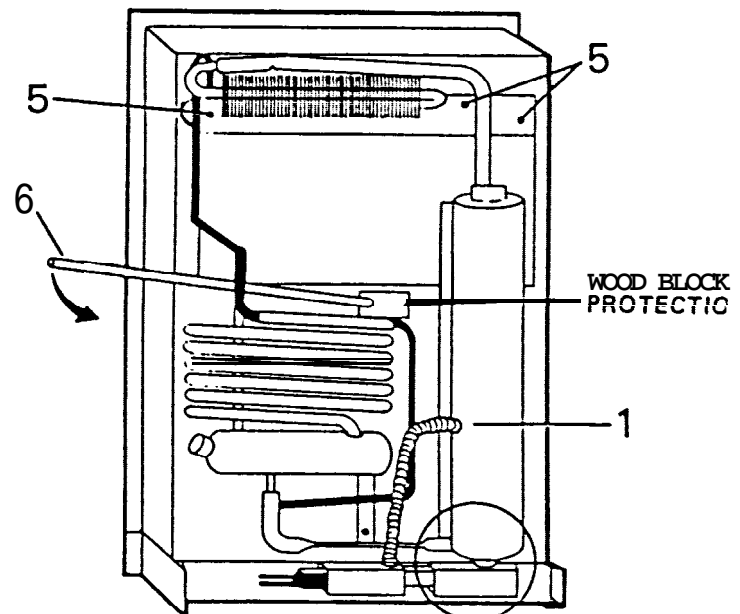

FIG. A1
1. Remove heater(s) from boiler case (FIG. A1).
5. Remove screws holding unit from rear (FIG. A1).
6. Apply leverage as shown and pull out (FIG. A1).